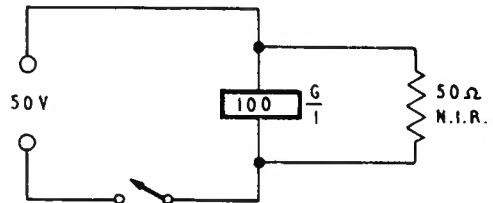

FIG. 2.
STEP 3. Connect the circuit as shown in Fig. 2.